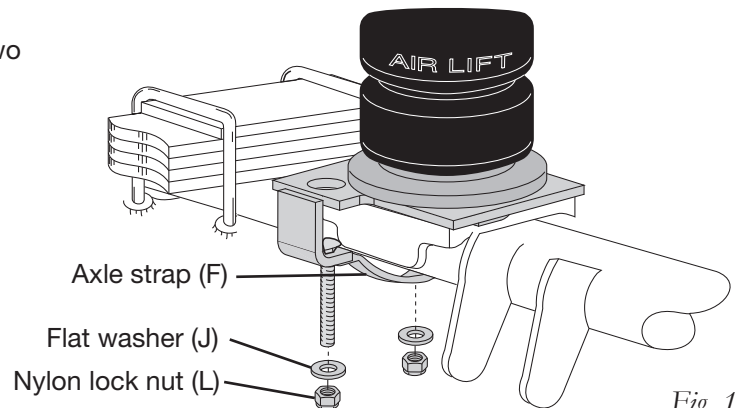

Fig. 10
4. Attach the axle strap (F) to both lower bracket carriage bolts using two flat washers (J) and two nylon lock nuts (L). Torque evenly to 16 lb.-ft. (22Nm) (Fig. 10).